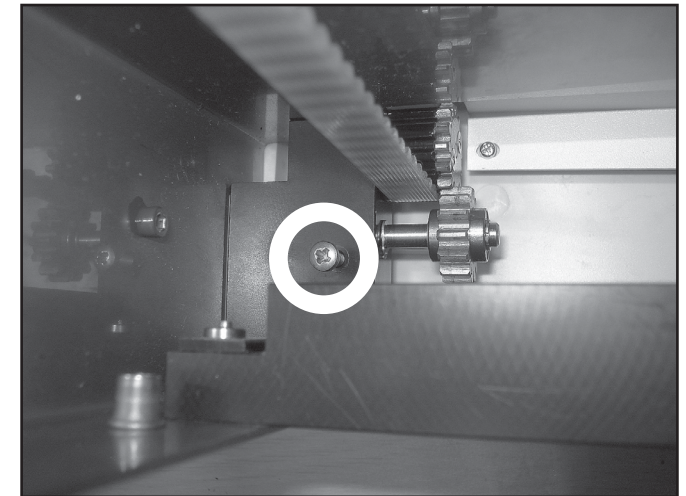

Figure 7: One of the screws securing the side panel to the rack conveyor
(2) Phillips screws from the inside. You will need to hold the rack conveyor upright to access the screw holes under the gear belt (see Figure 7).